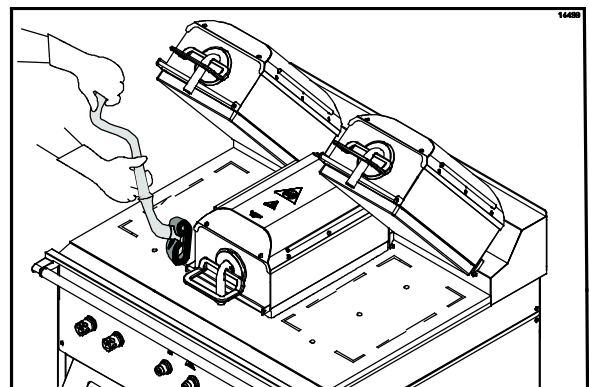

Figure 58
29. Apply the grill cleaner to both sides of the center platen. (See Figure 58.)